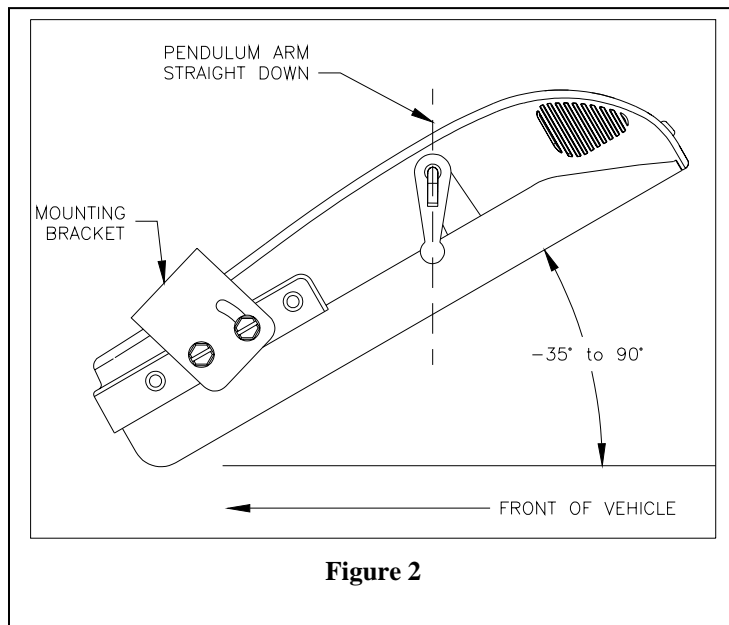

Figure 2
6. Push the pendulum forward until it reads 10. The pendulum should now be directly downward. (Fig. 2) Repeat steps 4, 5, and 6 several times to make sure display has just reached the minimum number.